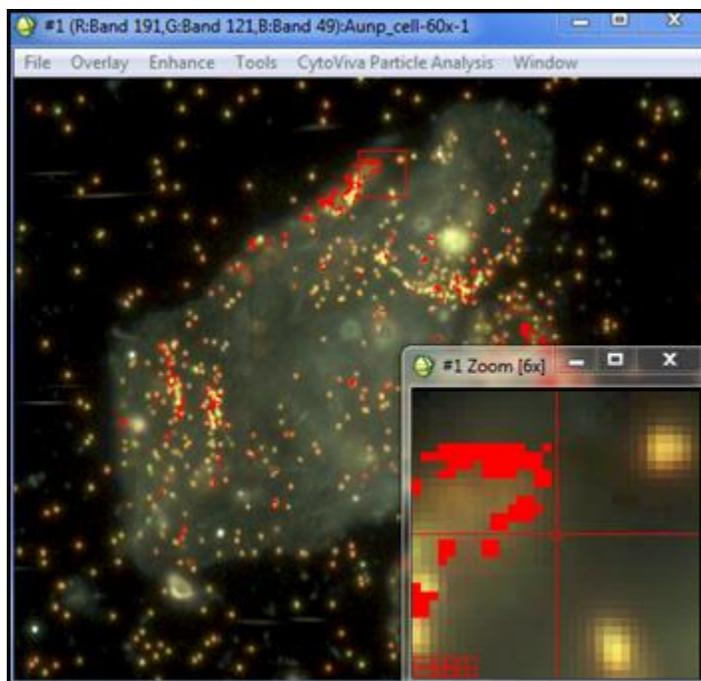

Figure 5.7c. View of the classification overlay
- Now you will see an overlay image of your classified picture and the original image (Figure 5.7c).